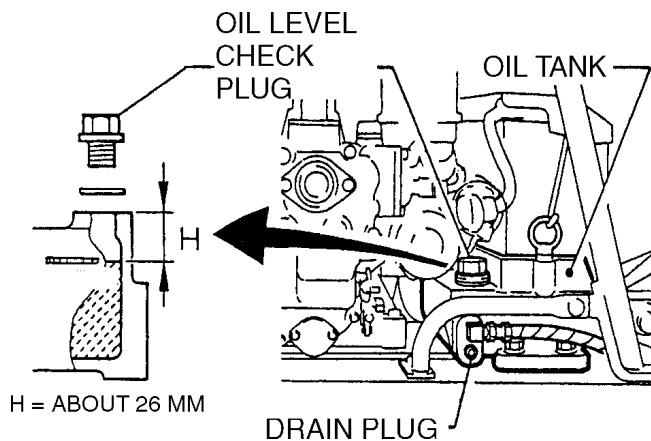

Figure 29. Hydraulic Oil Maintenance
1. Remove the drain plug (Figure 29) at the bottom of the oil tank with a 6 mm hex wrench and drain the hydraulic oil.